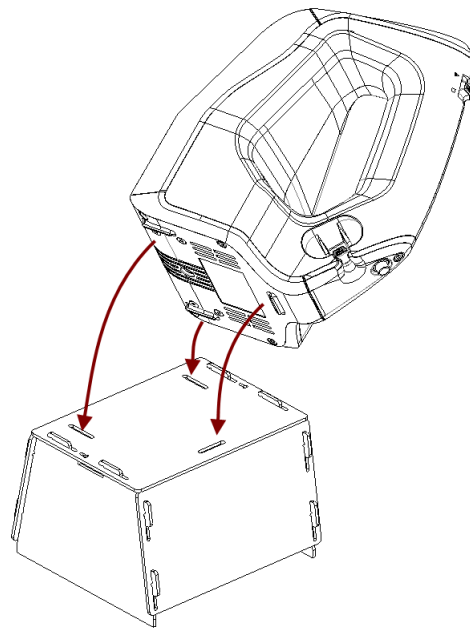

Figure 200: Placing Artec Spider on the stand
3. Place the scanner on the scanner stand, making sure that you insert the three scanner stems in the three slots of the stand cover (see Figure 200).